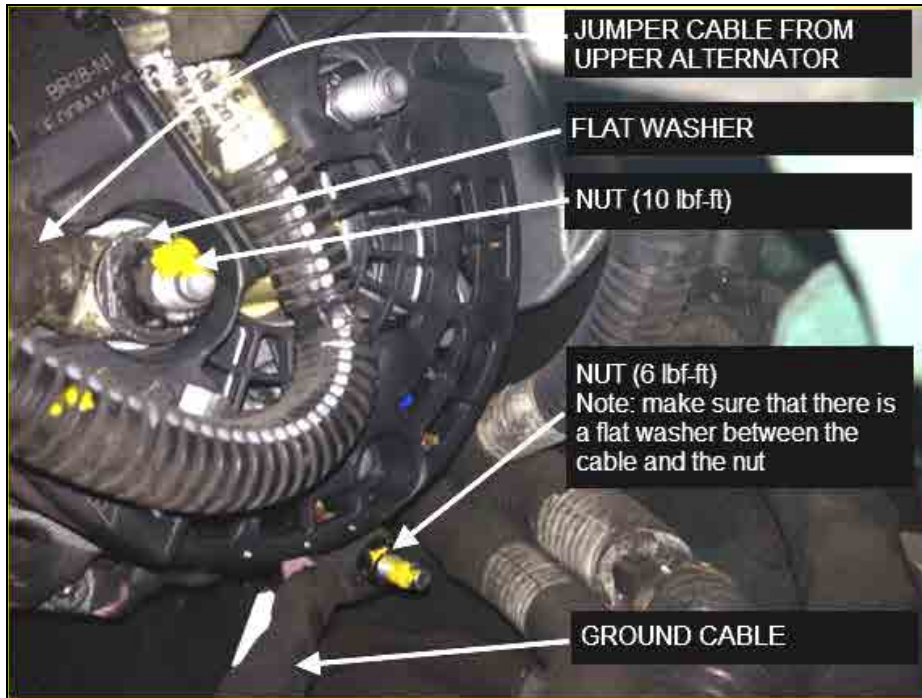

FIGURE 26
- Fit jumper cable (positive cable) onto **B1+** stud terminal on lower alternator (FIGURE 26).
- Place one new flat washer #5001341 against the cable ring terminal and screw new nut #5001787 (nut torque: 10 lbf-ft) (FIGURE 26).
- Fit the ground cable onto the alternator ground stud, place one new flat washer #502573 against the ground cable ring terminal and screw a new nut #5001182 (nut torque: 6 lbf-ft) (FIGURE 26).